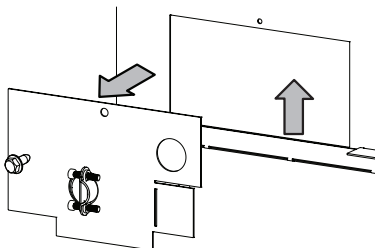

Figure 29
3. Remove the electrical access cover panel from the left end of the fireplace. **See Figure 29.**
6. Re-install the junction box into the firebox using the screw removed in step 3. **See Figure 29.**